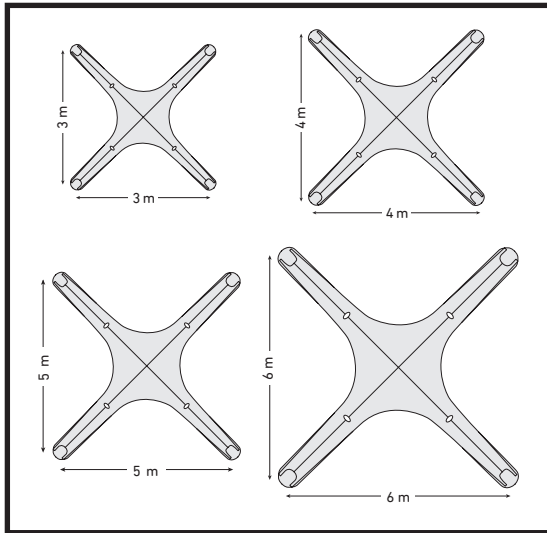

Fig. 1
1. Choose a flat even spot where you want to pitch the tent. Make sure the spot is big enough to do it. (Check the dimensions given in a corresponding picture - Fig. 1).